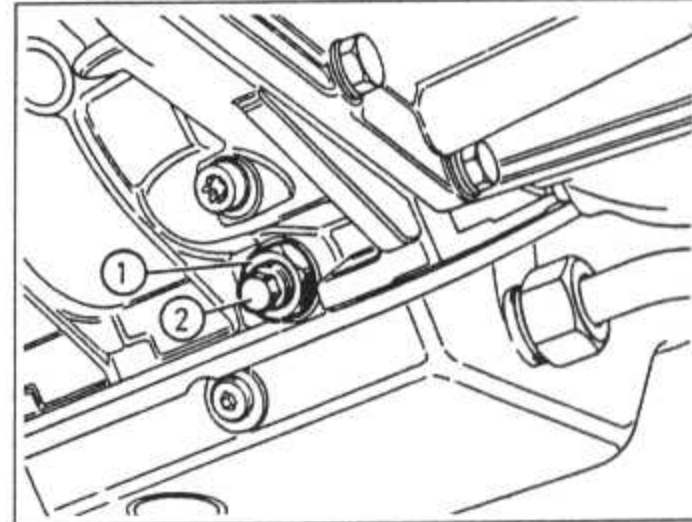

Fig. 13.43 Brake band adjuster locknut (1) and bolt (2) (Sec 14)
29 Slacken the locknut (1) (Fig. 13.43) on the side of the transmission casing, and unscrew the nut and the bolt (2) two turns.